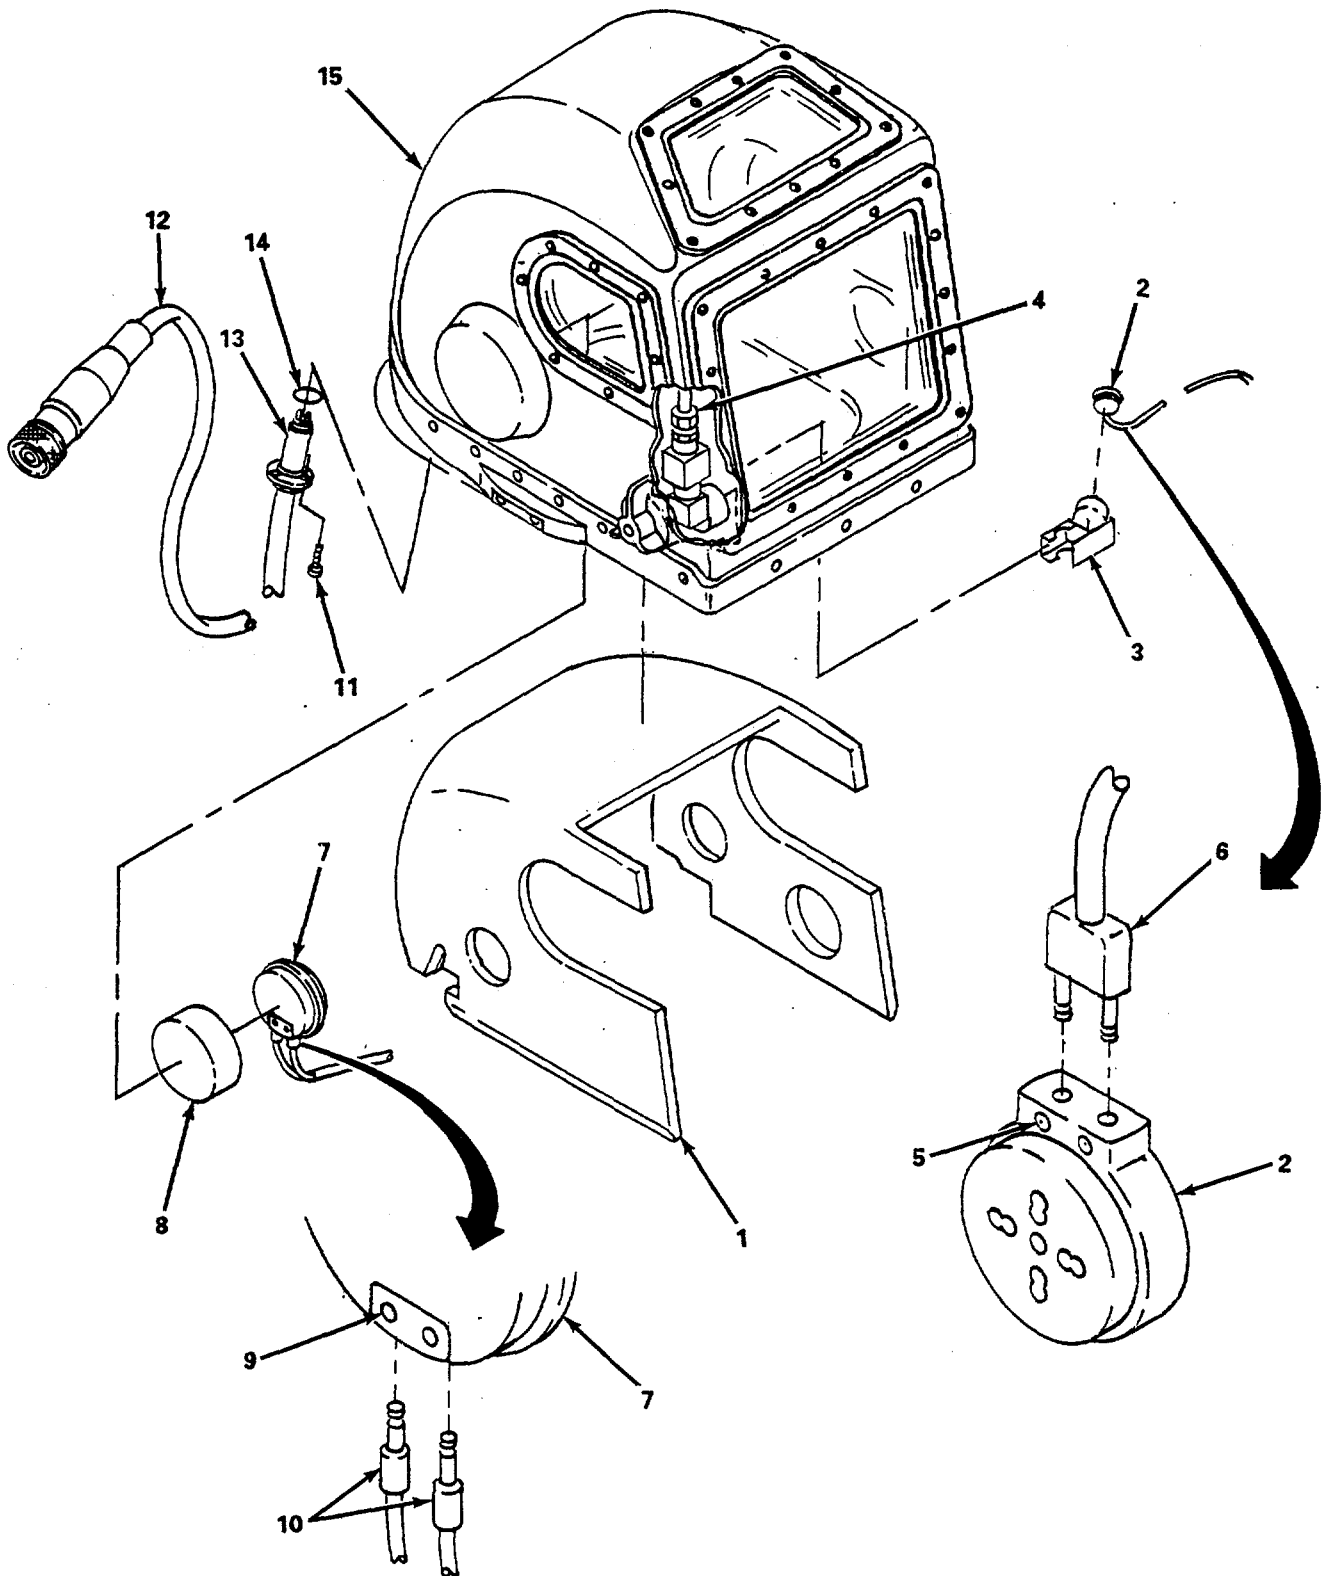

Figure 4-25. Helmet Communications Assembly, Disassemble.
(1) *Disassemble.* (figure4-25)